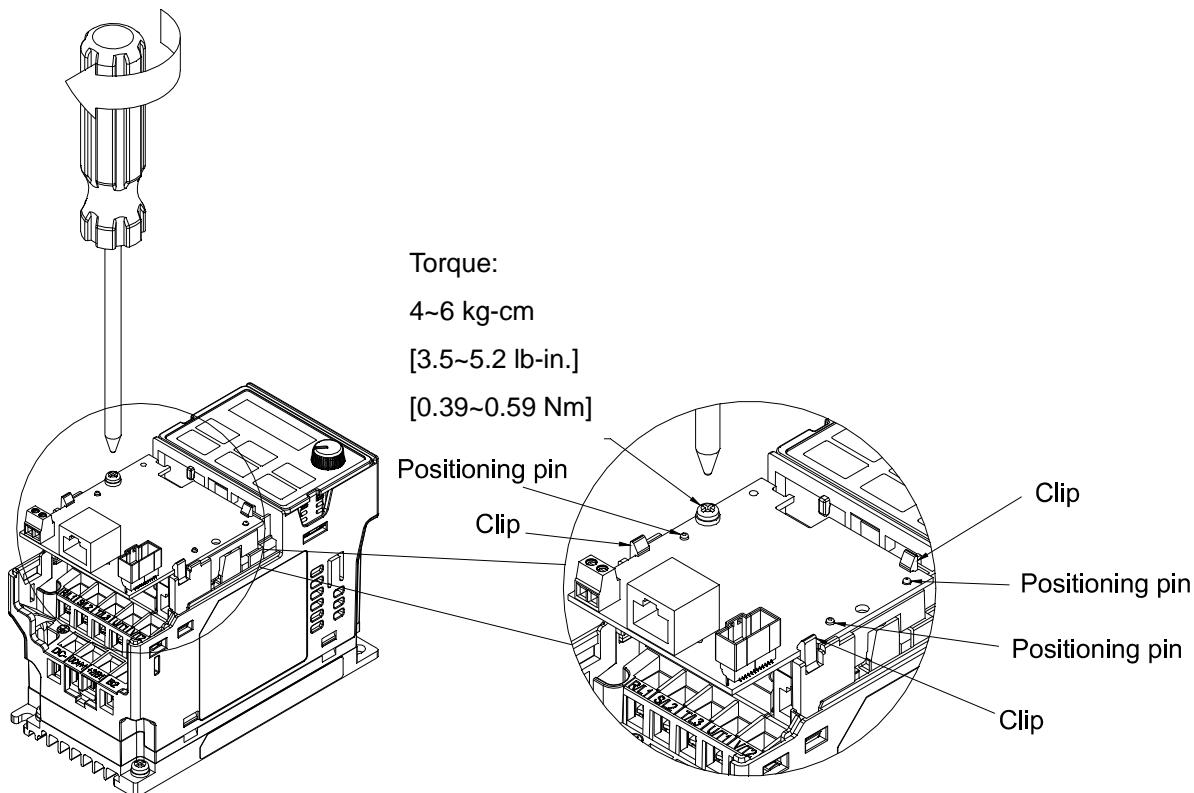

Fig. 8-3
5. Wiring after the option card fixed fitting is clipped with the holes (see  **NOTE**). Fasten the screw to fix the option card before wiring (shown in Fig. 8-3). Torque: 4~6 kg-cm [3.5~5.2 lb-in] / [0.39~0.59 Nm]. While the wiring is finished, the front cover cannot put it back on directly but needs to assembly the option card reversely. Please refer to the subsequent steps to complete the installation.